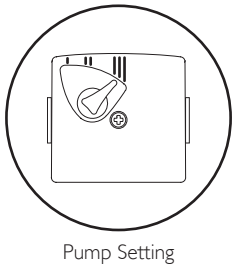

Fig. 88
3. A standard replacement Grundfos 15-60 head can now be fitted. Connect the pump wiring to the new head. **The pump speed must be set to 3** (Fig. 88).
### 14.15 Pump - Complete (Fig. 88)